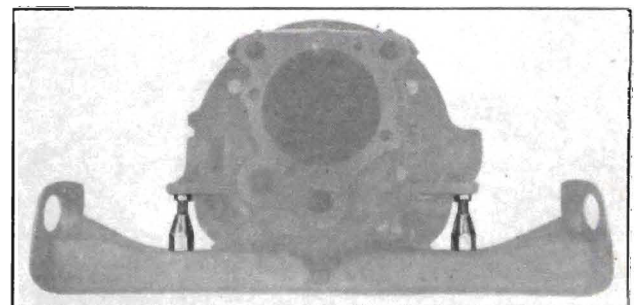

Fig. 7-18. Engine Jacks (Tool J-1580) in Position
3. Support rear of engine, using engine jacks, Tool #J-1580. See Fig. 7-18. Place jacks each side of engine mounting, locating pilot end of jack in holes in flywheel housing and bottom of jack on frame cross member. Tighten jacks to relieve engine loads from mounting.